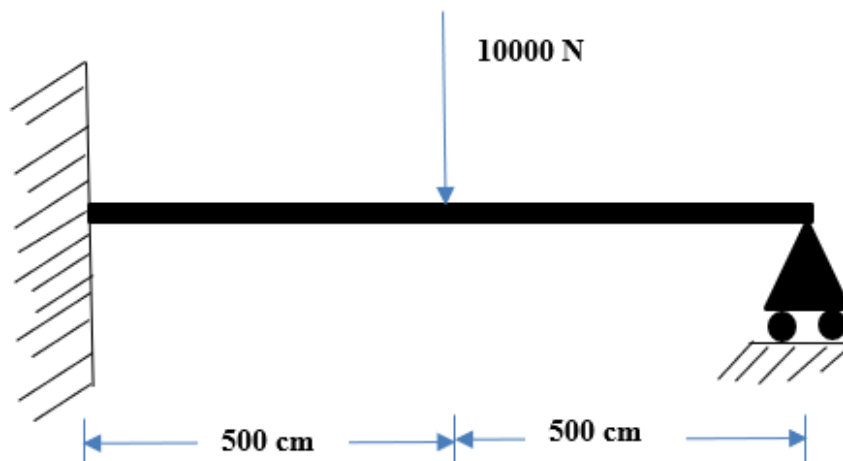

Figure Q2: Beam Element
a) The **Figure Q2** illustrates a simply supported beam of total length 10 m, subjected to a central point load of 10,000 N. The beam is discretised into two equal-length Euler-Bernoulli beam elements, each of length 5 m. The left end is fixed, and the right end is a roller support.